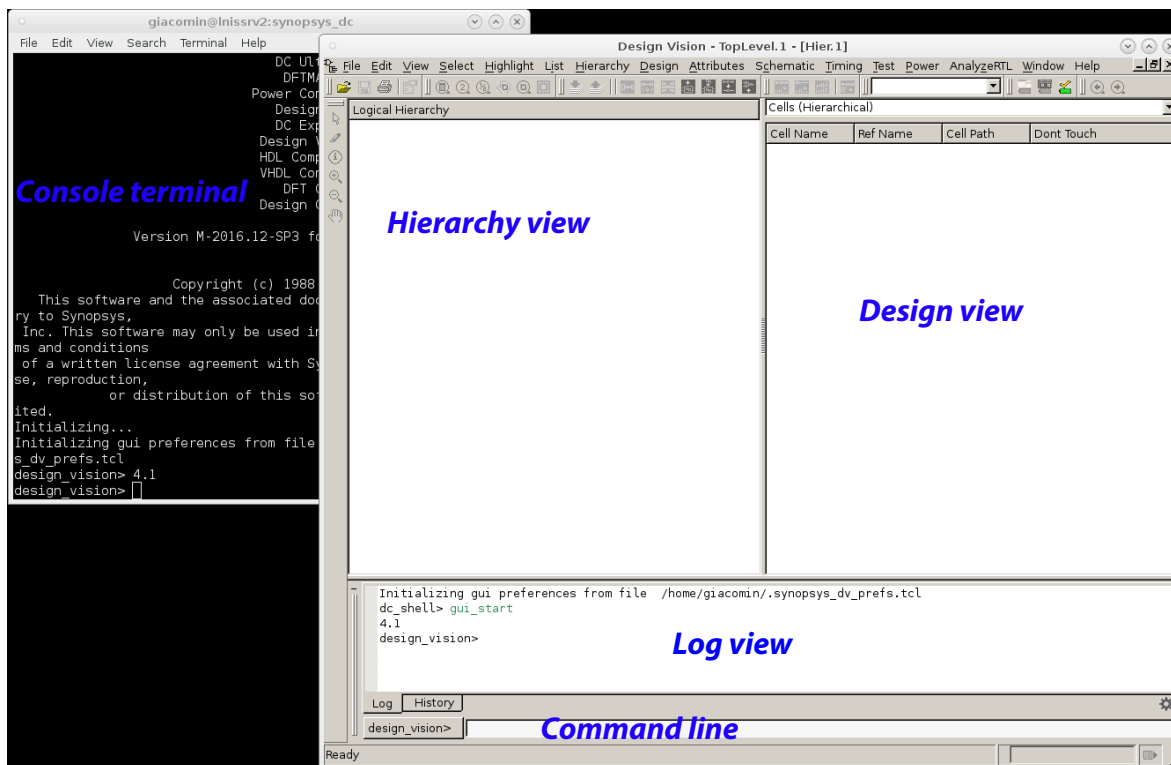

Figure 1: Synopsys DC window organization
When Synopsys DC is opened, you will obtain a window as shown in Fig 1. The **Console terminal** is used for entering Design Compiler (DC) commands, to source Tcl scripts or to run Linux commands. Those things can also be done through the **command line** through a script. The lab will show you how to perform the tasks with the GUI by hand, but it can be automatized by running command lines. In addition, not all commands are available in the GUI. For more complex and repetitive synthesis tasks, it is highly recommended to use scripts. When you will perform actions on the GUI, the equivalent commands will be recorded and stored in the *command.log* file in the *design_compiler* directory. The equivalent commands will also be given in this tutorial. To obtain some help about a command, you can run in the console terminal or the command line: